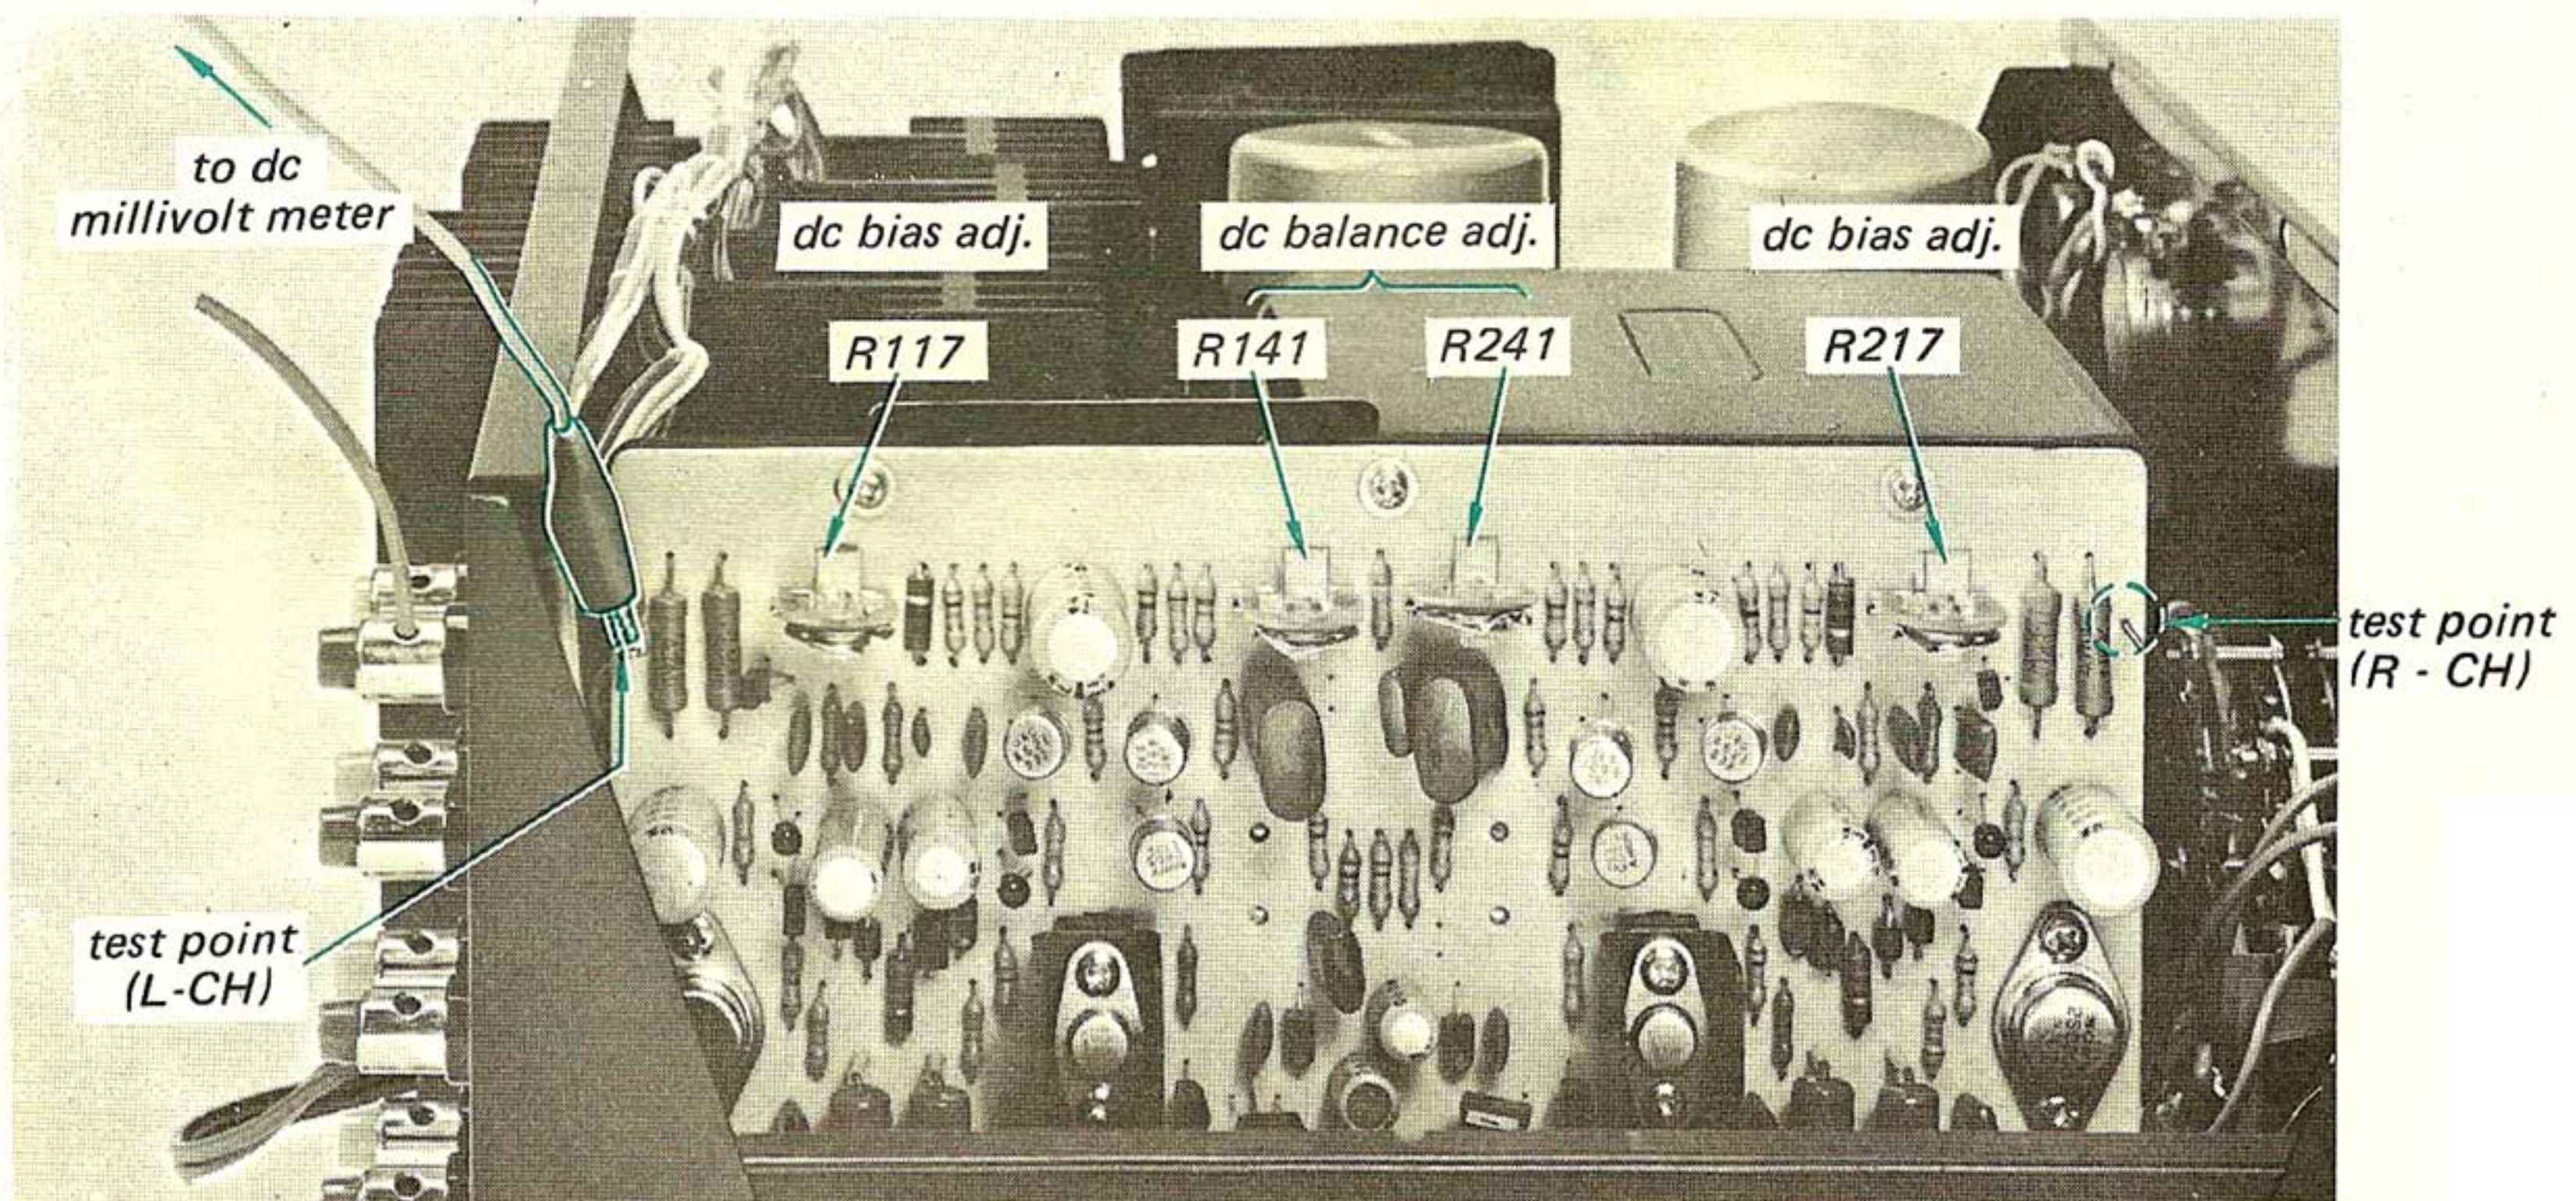

Fig. 3-1 Connection point of dc millivoltmeter and parts location
2. Connect the dc millivoltmeter between the test point on the power-amplifier board and the hot side of the speaker binding post, as shown in Fig. 3-1.
To avoid accidental power transistor damage, increase the ac line voltage gradually (using a variable transformer) while measuring the voltage across the test point and the hot side of the speaker binding post as shown in Fig. 3-1.